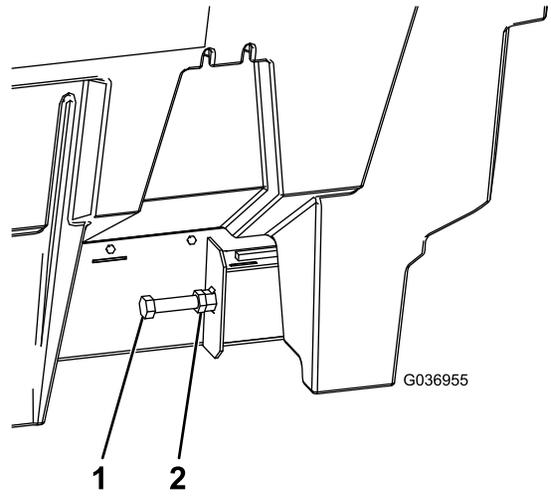

Figure 26
4. To adjust the tension, loosen the jam nuts on the sides of the spreader (Figure 26).